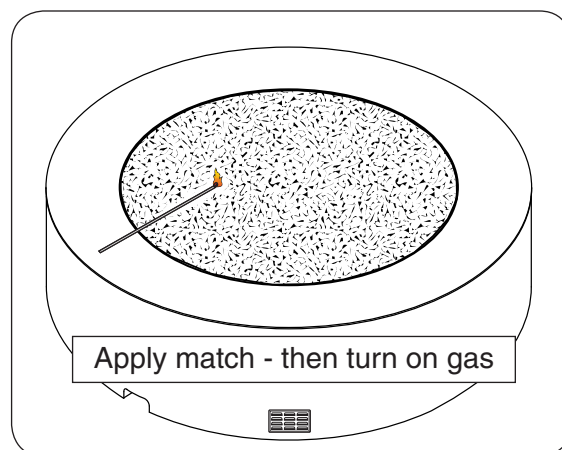

Fig. 29-1
3. Lay a lighted match on the surface of the decorative media near the burner (**do not hold the match in your hand**) (Fig. 29-1).